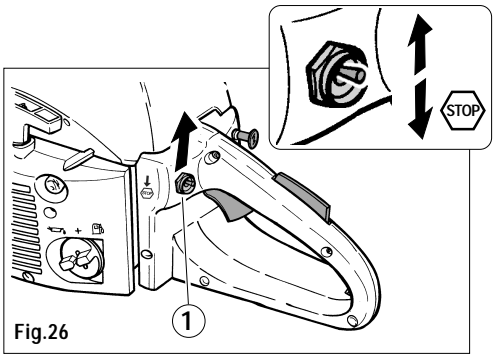

Fig.26
- 2) Lift the "STOP" switch lever (fig. 26 part 1).
1) To stop the engine, lower the switch lever to the **"STOP ↓"** position (Fig.26 part. 1)
1) Raise the switch lever (Fig.26 part.1).